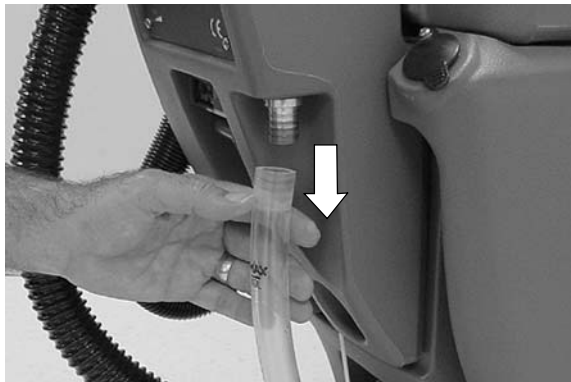

FIG. 29
1. To drain any remaining water from the solution tank, pull the solution tank level hose off the hose fitting as shown (Figure 29).